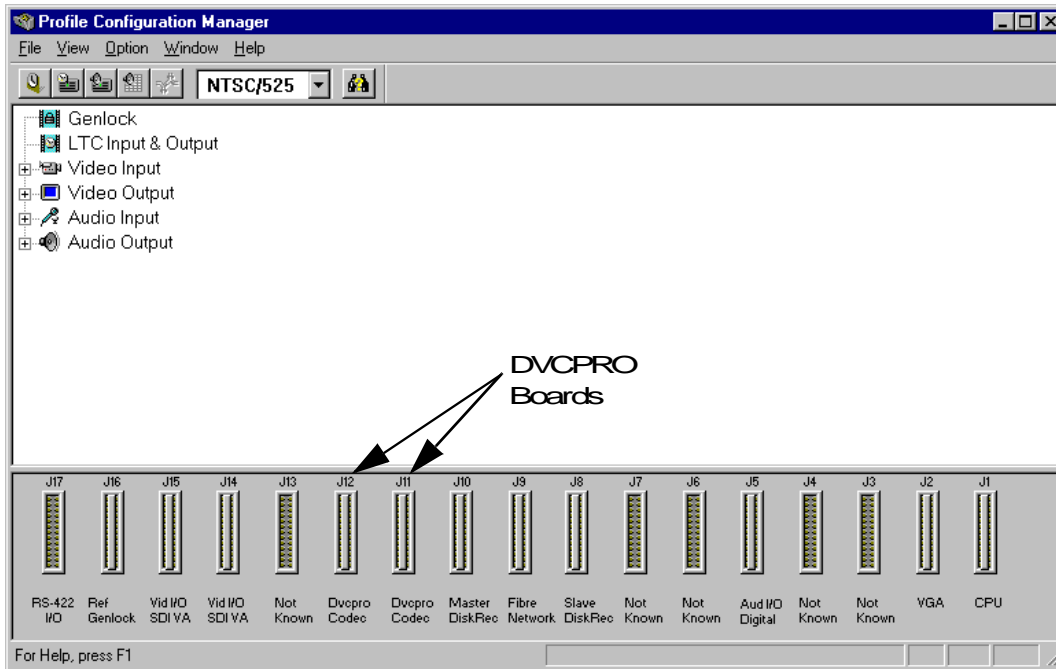

Figure 8. Configuration Manager showing DVCPRO boards
2. Check the bottom of the window for the presence of the DVCPRO boards as shown in Figure 8.